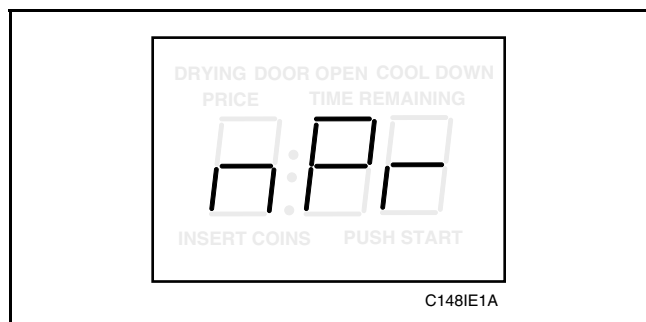

Figure 14
3. Press the LOW TEMP (+) pad or the NO HEAT (-) pad to scroll through the programmable options until “nPr” appears in the VFD, *Figure 14*.